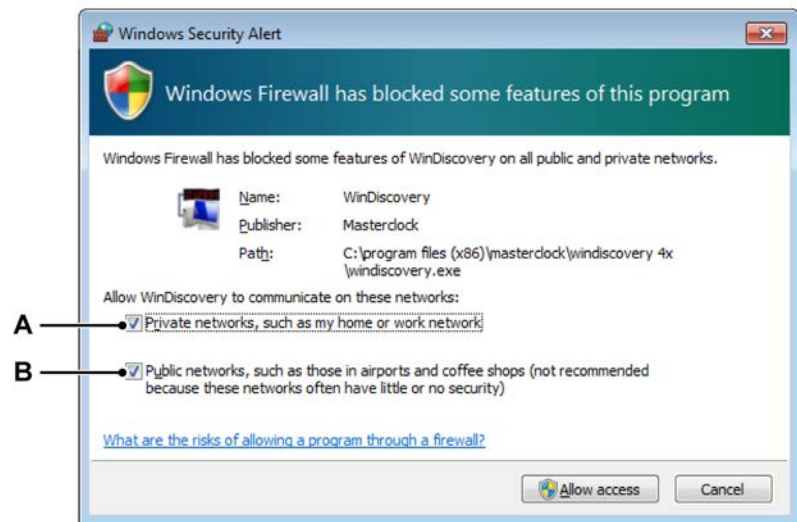

Figure D.19: Windows® Security Alert settings
- 1A** The first time WinDiscovery is started, Windows® may show the firewall configuration window. Select both options as shown in Figure D.19 and confirm with **Allow access** button.